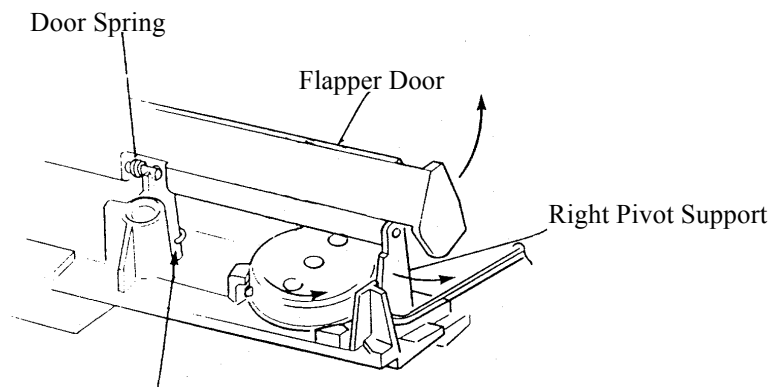

Figure 4-13a Flapper Door Removal
- a. Remove Flapper Door (Figure 4-13a) by gently springing right pivot support arm of Main Frame away from Door pivot pin. CAUTION: Keep finger over Door spring (center) to prevent pop-out and loss of spring.